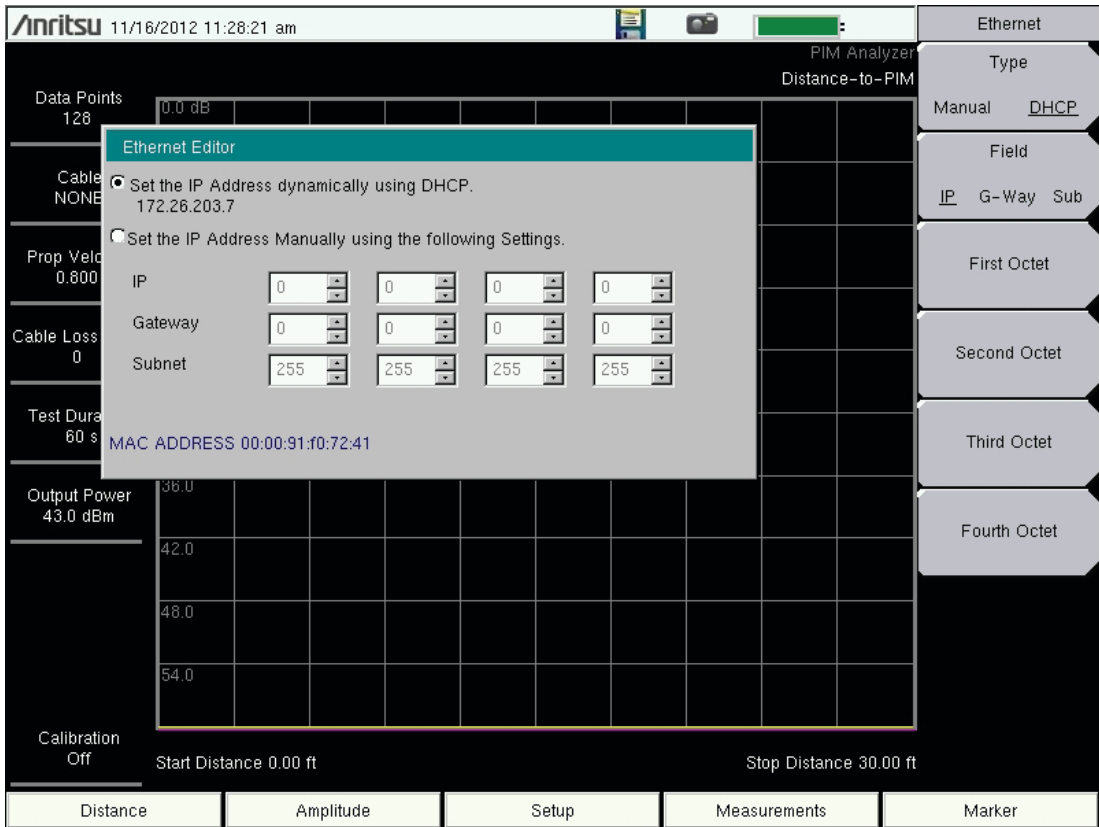

Figure F-1. IP Address Assigned Using DHCP
To display the IP address with the instrument on, press the **Shift** key, then the **System** (8) key, then the **System Options** submenu key and the **Ethernet Config** submenu key. The IP address will be displayed as shown in **Figure F-1**. The image on the display panel of your PIM Master may differ from the image shown here.